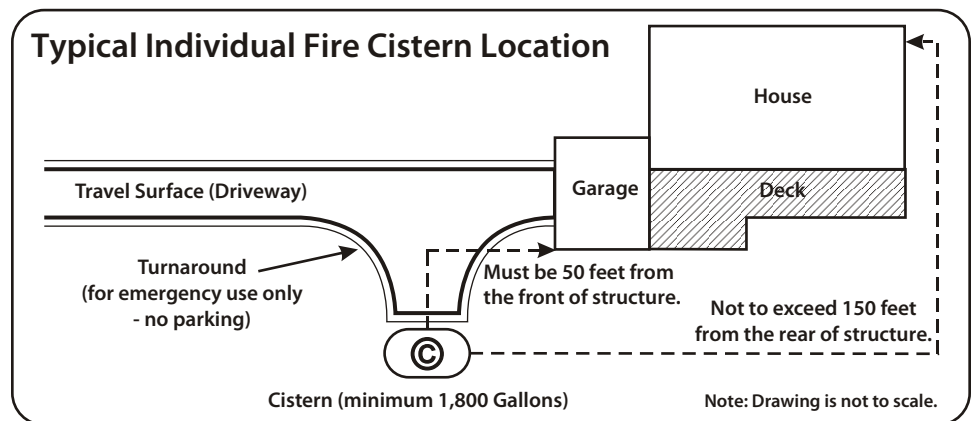

Figure 1: Typical Individual Fire Cistern Location.
- It must be located at least **50 feet from the front** of the structure, and not to exceed **150 feet from the rear** of the structure. It should be located next to an emergency turn-around, or where the driveway meets the road, whichever is closer (see Figure 1).